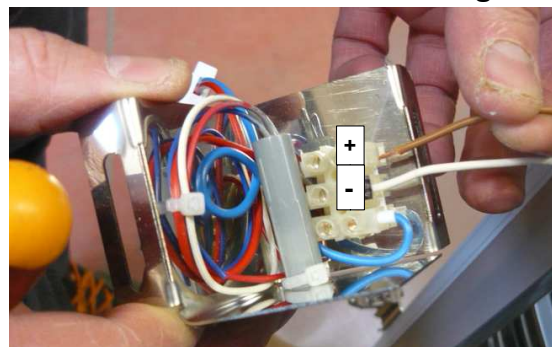

Fig. 3
- 3 – **Collegare il cavo Marrone al morsetto "+" del portalampada a LED (Fig. 3)**
Connect the Brown cable on the "+" terminal of the new light led (Fig. 3)
- 4 – **Collegare il cavo Bianco al morsetto "-" del portalampada a LED (Fig. 3)**
Connect the White cable on the "-" terminal of the new light led (Fig. 3)